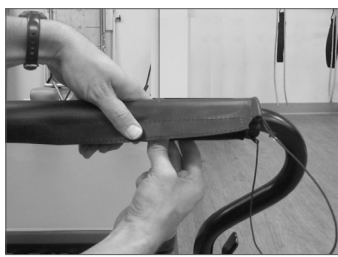

Figure 8
9. Secure the footbar cover by pushing both ends tightly together and attaching the Velcro as shown in Figure 8. Note: The side of the footbar cover with Velcro should be facing away from the Reformer and line up exactly with the seam in the foam on the footbar.